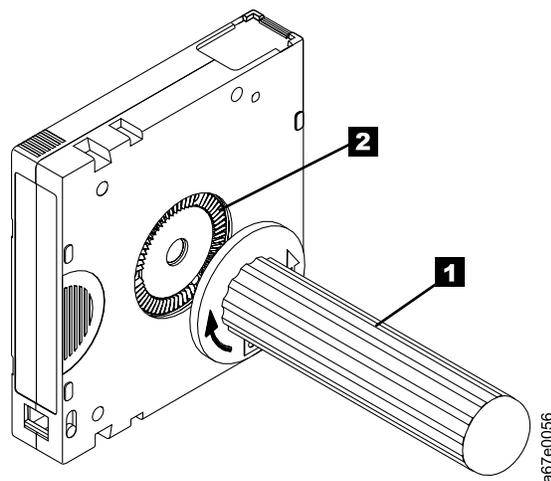

Figure A-6. Rewinding the tape into the cartridge
- To rewind the tape, insert the cartridge manual rewind tool ( **1** in Figure A-6) into the cartridge's hub ( **2** ) and turn it clockwise until the tape becomes taut.